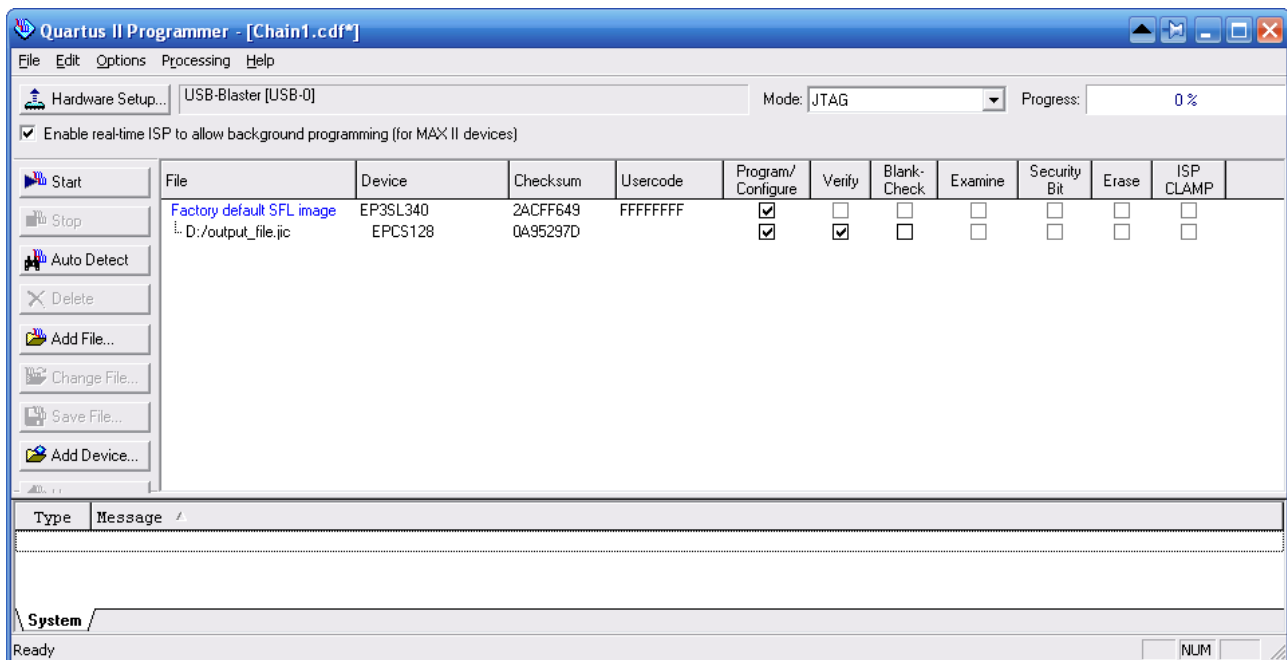

Figure C.5. Quartus II programmer window with one JIC file
2. Program the serial configuration device by checking the corresponding **Program/Configure** box, a Factory default SFL image will be load (See Figure C.5).